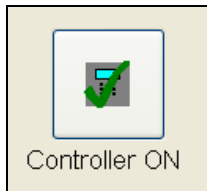

Figure 6.6.1
2. From the list of icons to the right of the “**Speed Communications**” screen select the **Controller ON** Icon (Figure 6.6.1).